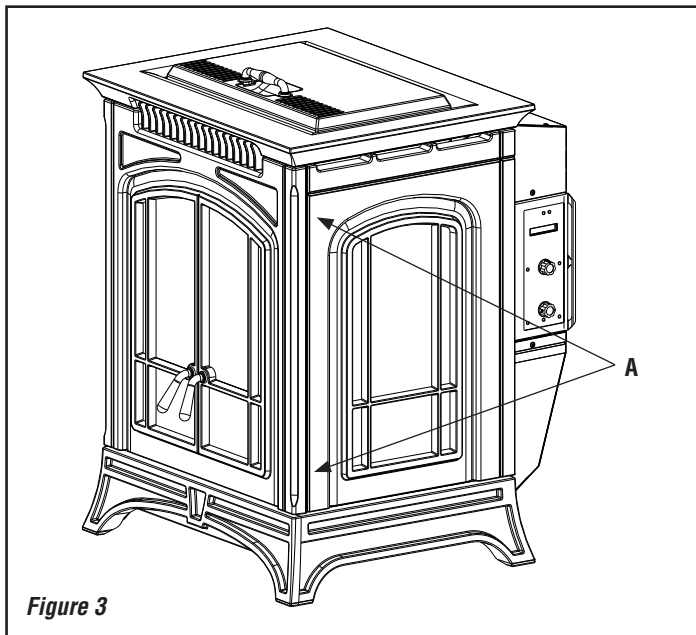

Figure 3
- Step 1.** Apply protective tape to the front edge of the right side door, and the back (right) edge of the front door (see A in **Figure 3**).
Step 3. Hold the right side door closed tightly while you carefully return the front cast iron door to the closed position, paying special attention to the narrow gap between the two doors (A in *Figure 3*).